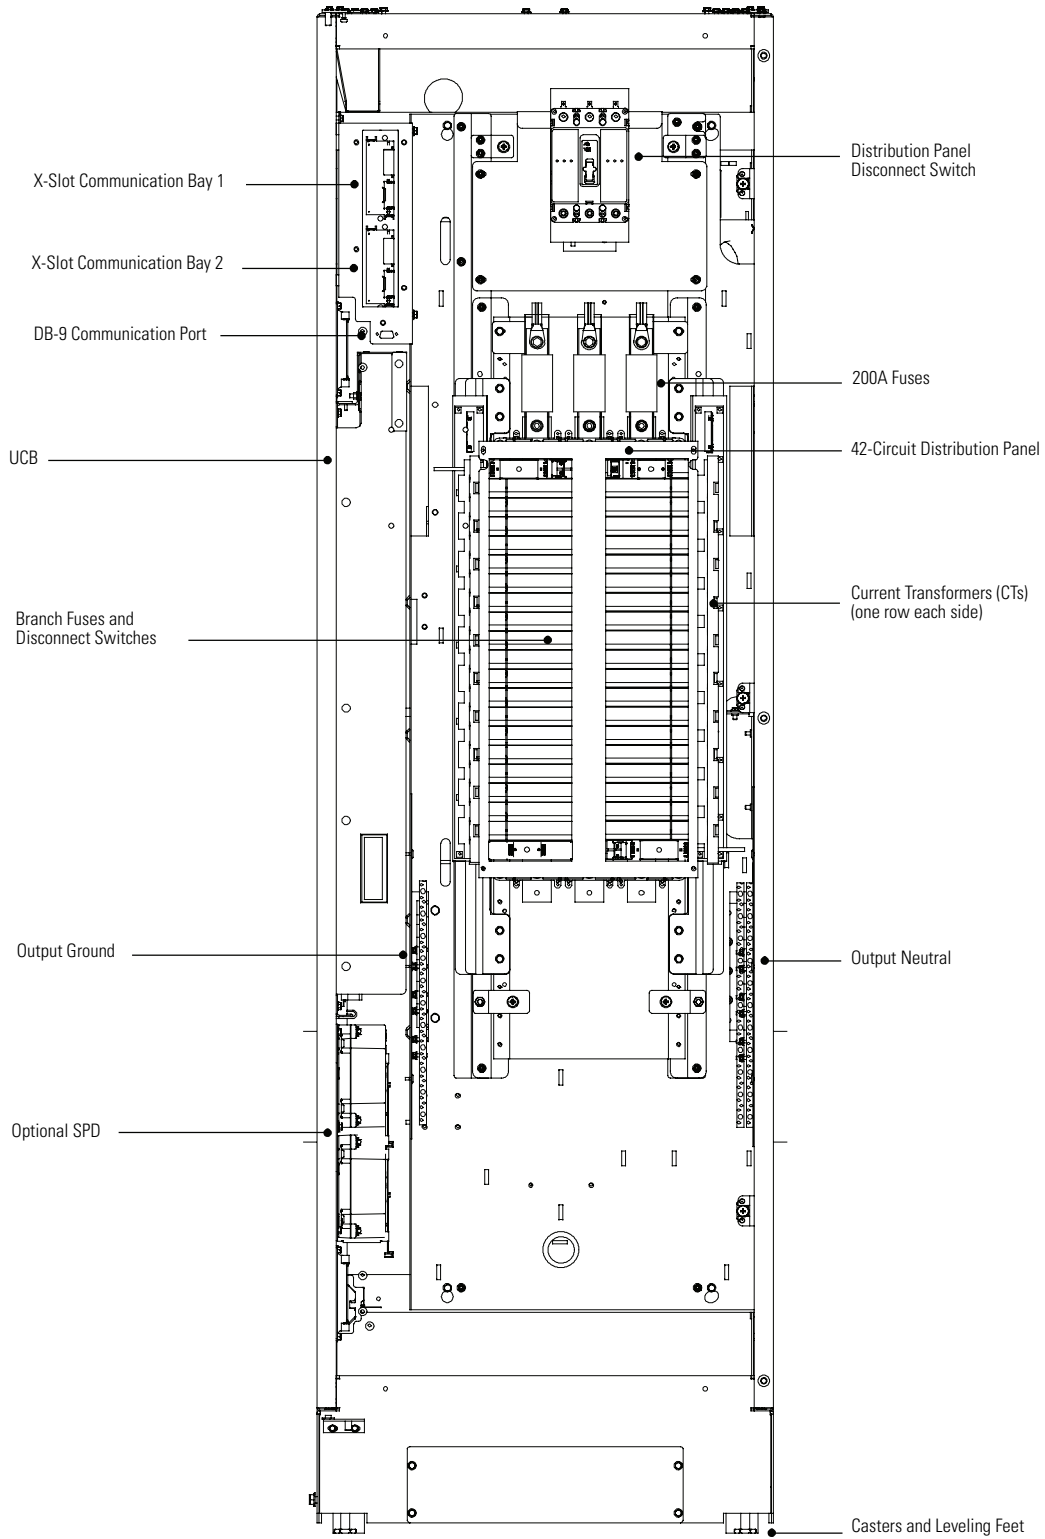

Figure 6. RPP Layout – Cooper Bussmann Panel
2. Verify that all circuit breakers are in the OFF (O) position. For layout, see Figure 6 on page 12.